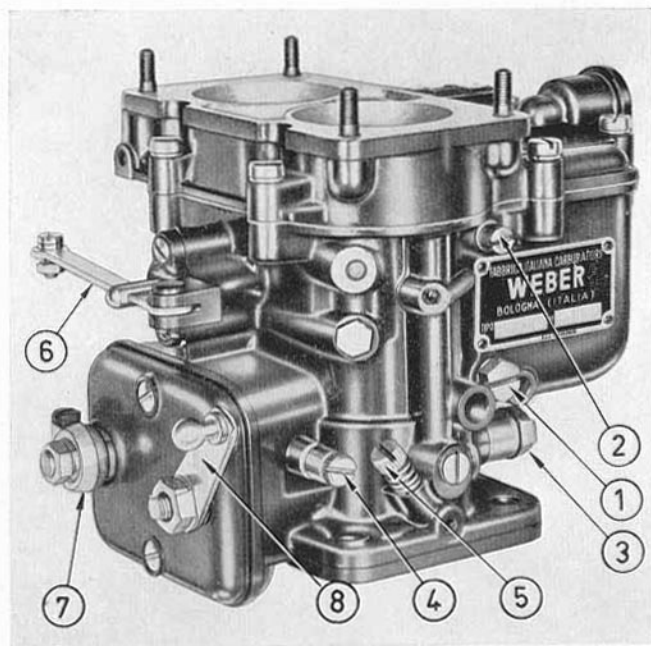

Fig. 30 - Carburettor Weber 40 DCL/6 - seen from the offside.
3. Release the throttle clamps (9) Fig. 30 on all carburettors.
6. By means of the throttle adjusting screw - located in the near side of the carburettor, opposite No. 4 Fig. 30. Adjust the throttle opening until the float on the testers is in the same position as before.
9. Assuming all throttle openings are now the same, i.e. balanced, tighten up on all the throttle clamp bolts (9) Fig. 30 taking care not to disturb the nut adjacent to clamp (7) Fig. 30.
Screw in the idling mixture adjustment screw (5) Fig. 30 on the offside of the rear carburettor. This cuts out the two cylinders served by this intake - slowly screw out again until the engine is heard to pick up on all 12 cylinders - unscrew by a further $\frac{1}{8}$ turn. Complete this operation on the remaining five screws.